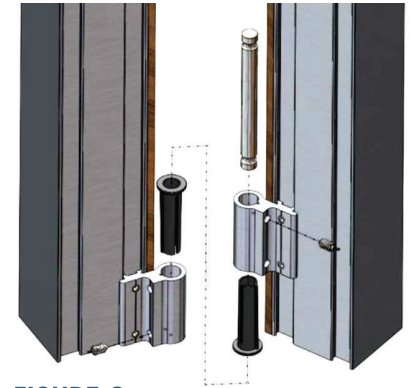

FIGURE 8
1. Insert hinge sleeve into hinge hole and place panels back to back (Fig.8)
5. Insert hinge sleeve into hinge hole and place panels back to back. (Fig.8)